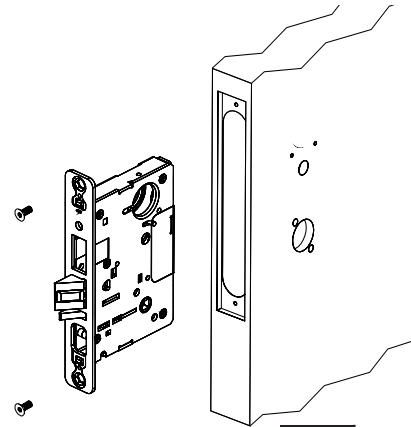

Figure 3
MAKE SURE TEMPLATE IS ORIENTED CORRECTLY. (FIGURE 3)
4. Square template to edge of door. (Figure 3)